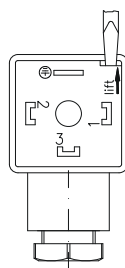

Fig. 8
- ↪ Open the core ⑧ of the cable socket ② with a screwdriver or similar tool (→ Fig. 8).